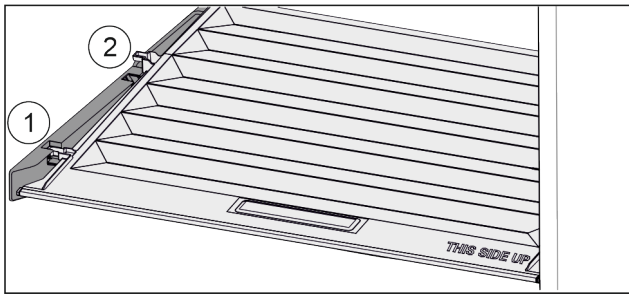

Fig. 161
- ▶ Pull the lid up at the front to the opening in the retaining parts Fig. 161 (1).
- ▶ Lift from the back and pull it up and out Fig. 161 (2).